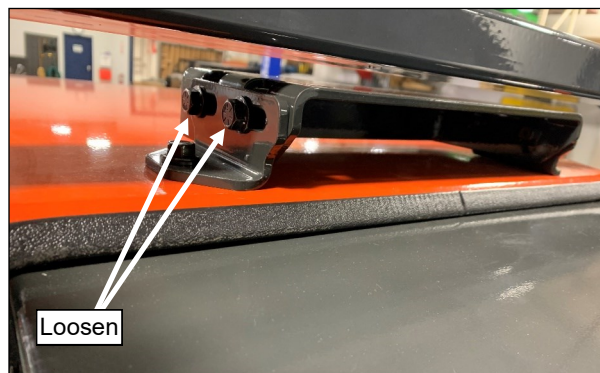

Fig. 5.12 (Loosen Upper ROPS Mount)
- 5.12 See fig. 5.12. Loosen the 4 factory installed 5/16" bolts securing the upper ROPS mount so that the mount can slide up against the underside of the ROPS.